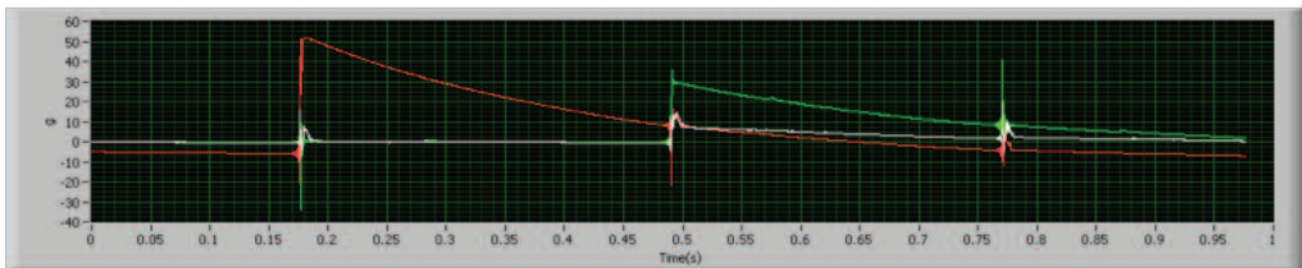
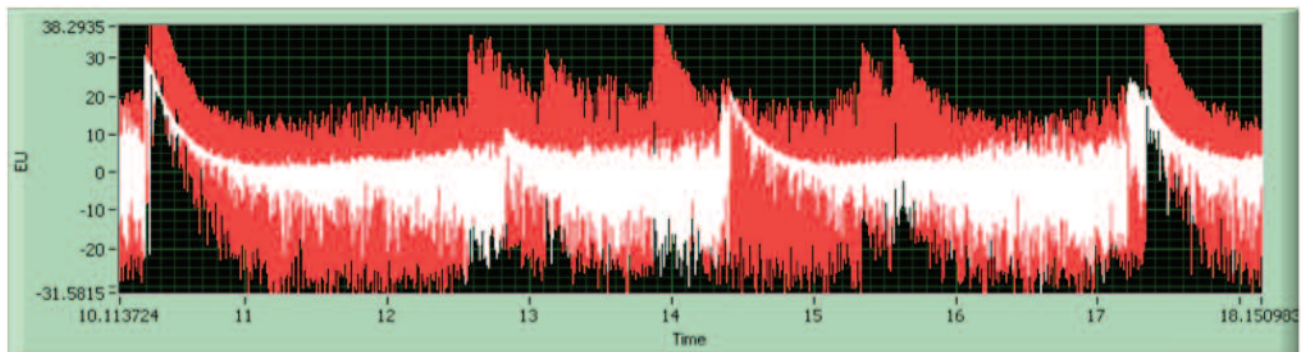

Figure 1 – Saturated amplifier example #1
Figure 2 – Saturated amplifier example #2
A frequently asked question about measurements made with piezoelectric (PE) vibration sensors is related to the measurement parameters. After completing a test and evaluating data, test engineers may observe obvious signs of problems within the data that was collected. Many factors can affect the data from a PE accelerometer including measurement range, the measurand input amplitude, the measurand input frequency content, and the data acquisition sample rate. For example, input amplitude levels that are greater than the sensor's measurement range will saturate the amplifier. Input frequency content at or near the sensor's resonant frequency may also saturate the amplifier. The high Q-factor at resonance will cause the sensor to enter an overload recovery state and no meaningful data can be acquired (even with post-process filtering in your DAQ). Data of a saturated amplifier will appear as illustrated in Figure 1 and Figure 2, (note exponential decay).